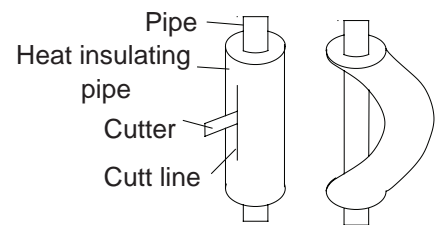

Fig.15
(4). When bending the pipe, do not bend it as is. The pipe will be collapsed. In this case, cut the heat insulating pipe with a sharp cutter as shown in Fig.15, and bend it after exposing the pipe. After bending the pipe as you want, be sure to put the heat insulating pipe back on the pipe, and secure it with tape.
Hold the torque wrench at its grip, keeping it in the right angle with the pipe as shown in Fig. 15, in order to tighten the flare nut correctly.